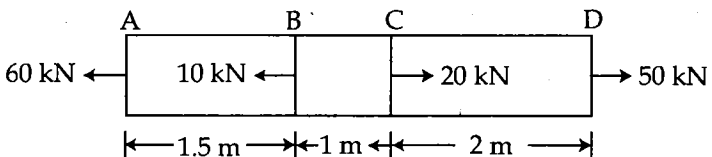

Fig. 1
1. (a) A steel bar of 25mm diameter is acted upon by forces as shown in fig 1. Determine the total elongation of bar if modulus of elasticity of bar material is $2.05 \times 10^5 \text{ N/mm}^2$. 6